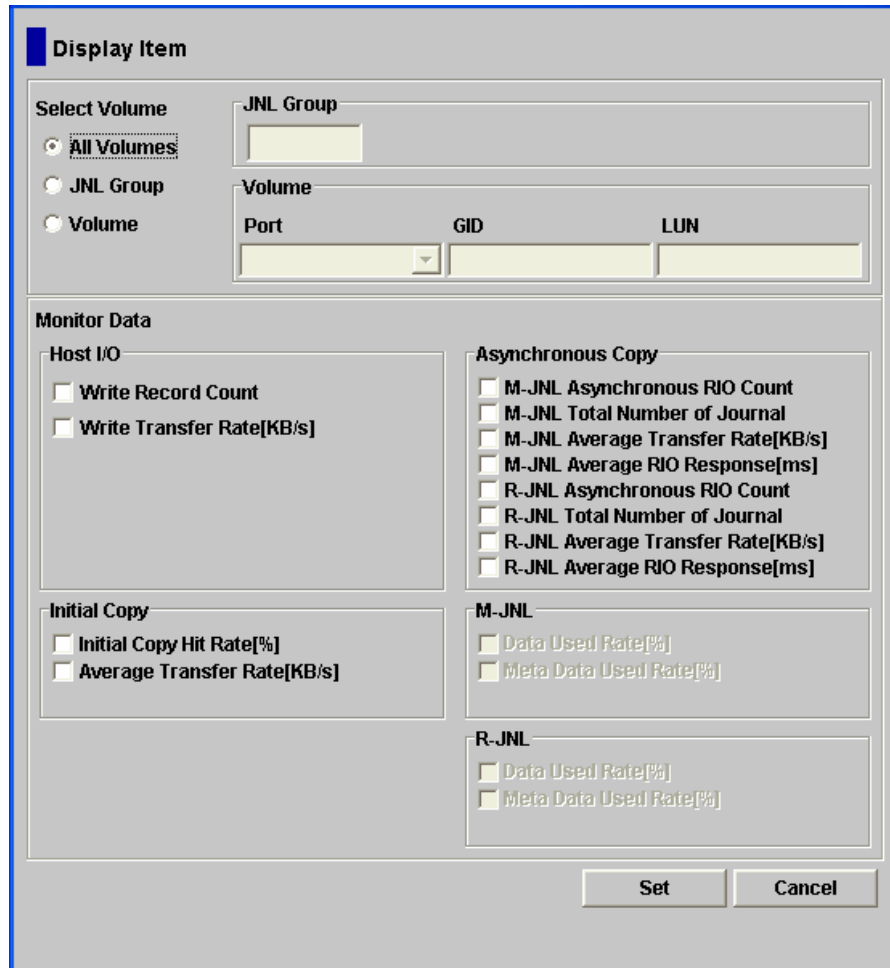

Figure 8-1 Display Item Dialog Box
2. Right-click the graph area of the Usage Monitor window, and select **Display Item** to open the Display Item dialog box (see Figure 8-1).